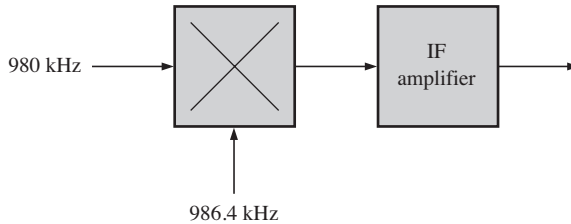

FIGURE 13-56
18. Determine the output frequency of the IF amplifier for the frequencies shown in Figure 13-56.